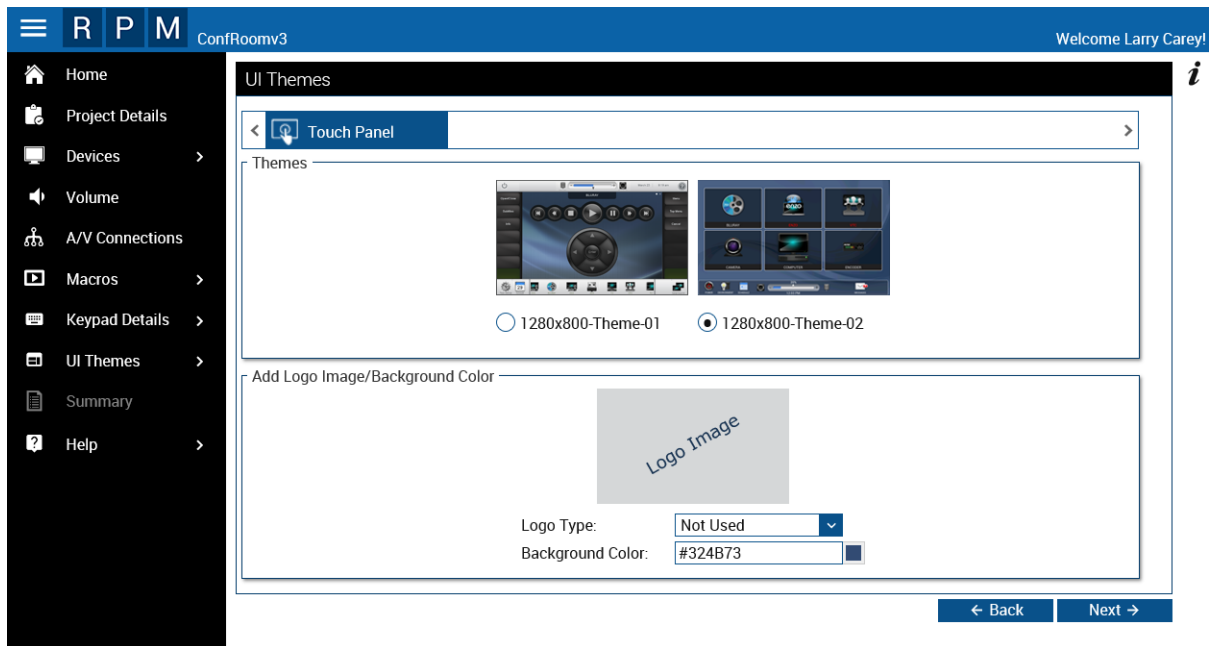

FIG. 32 Sample UI Themes page (indicating two Themes for a 1280x800 panel)
9. Click **Next** to proceed to the *UI Themes* page. The options on this page allow you to select a UI Theme for the touch panel(s) in this project, as well as select a logo image and background color for the RPM-generated panel pages (see FIG. 32 on page 24).
8. After configuring any keypad buttons and/or sensors in the project, click **Next** to proceed to the *UI Themes* page (FIG. 32):
Use the options on this page select a UI Theme for each touch panel in this project, as well as select a logo image and background color for the RPM-generated panel pages. Note that some panels provide more than one theme to choose from (as indicated in FIG. 32). Click to select the theme to use for the selected panel.